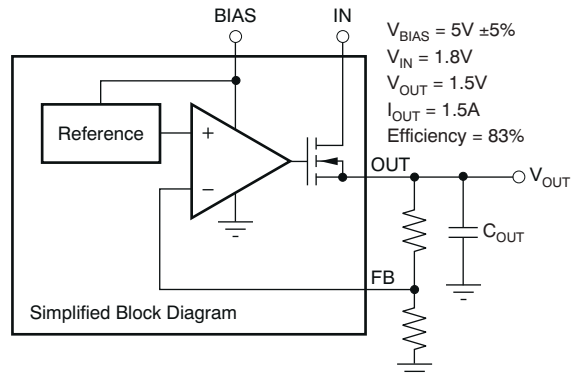

Figure 25. Typical Application of the TPS748 Using an Auxiliary Bias Rail
There are two different specifications for dropout voltage with the TPS748. The first specification (see Figure 25) is referred to as  $V_{IN}$  Dropout and is used when an external bias voltage is applied to achieve low dropout. This specification assumes that  $V_{BIAS}$  is at least 3.25 V(1) above  $V_{OUT}$ , which is the case for  $V_{BIAS}$  when powered by a 5.0-V rail with 5% tolerance and with  $V_{OUT} = 1.5$  V. If  $V_{BIAS}$  is higher than  $V_{OUT} + 3.25$  V(1),  $V_{IN}$  dropout is less than specified.
Figure 25 shows a simplified version of the final circuit.